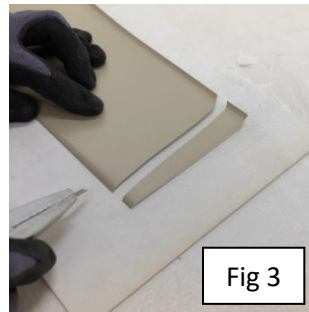

Fig 3
- Use a utility knife to cut the pattern on the uninstalled wall base, apply adhesive, and position the trimmed section into place (Fig 3)